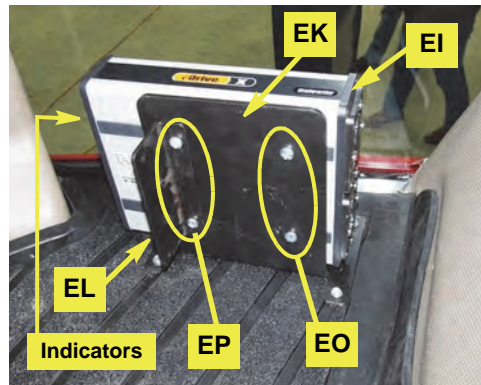

Figure 1b: ECU installed
- b. With the ECU **EI** against the outside face of its bracket **EK** (power/communications indicators at the top, connectors at the rear), pass the shorter hardware **EO** through the rearmost holes in bracket **EK** (the connectors end) and loosely attach **EI** (Figure 1b).
Pass the longer hardware **EP** through the narrow side of controller bracket **EL** (wide side forward) and the forward holes in bracket **EK**, and attach **EI** and **EL** to **EK** (Figure 1b). Tighten **EO** and **EP** (Figure 1b).